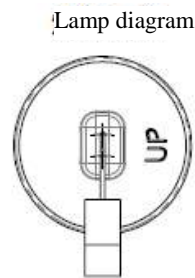

Figure 5-7
- Take out the new lamp, push it in along with the sliding chute with the above-mentioned method, and insert the lamp pin onto the binding post. During this process, please note the lamp installation direction: The printed typeface is on the right hand side (shown in Figure 5-7).